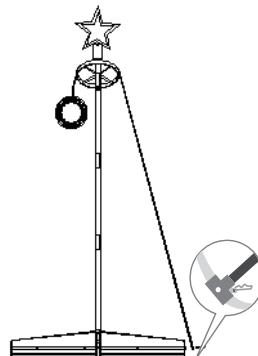

Figure 4
- Step 5: Open the reeled lamp body and pull down the lamp body to be straight, and insert the pin into the T-joint hole and the outer ring hole of the base; (Figure 4)